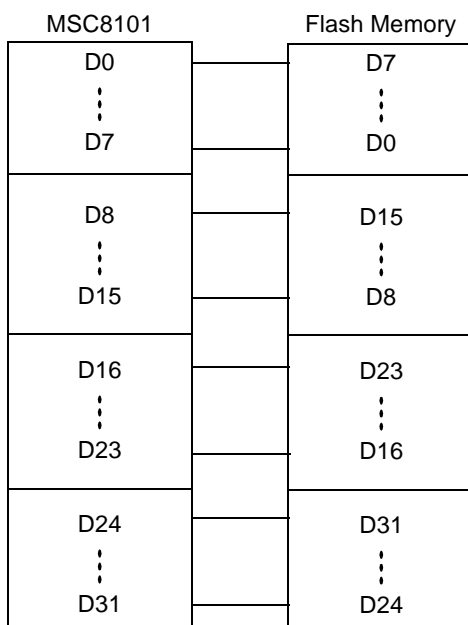

Figure 3. MSC8101 to Flash Memory Byte Lane Reversal
- *Flash memory devices.* The data lines of most Flash memory devices connect to the MSC8101 device with byte lanes bit-reversed for programming algorithm purposes. **Figure 3** shows a 32-bit example.